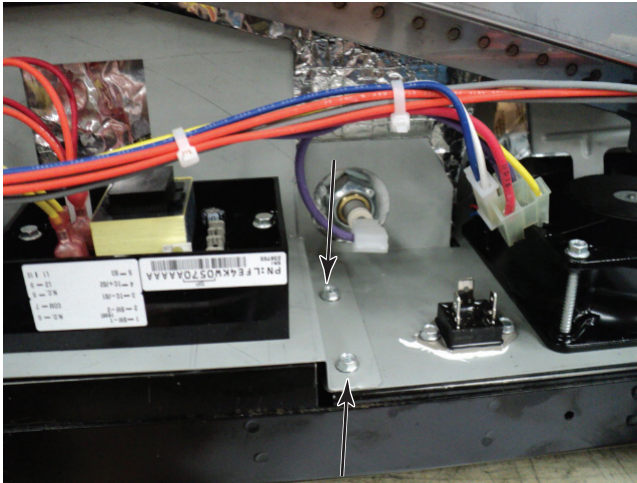

Figure 13
13. Remove two component bracket mounting screws and remove component bracket (Figure 13).